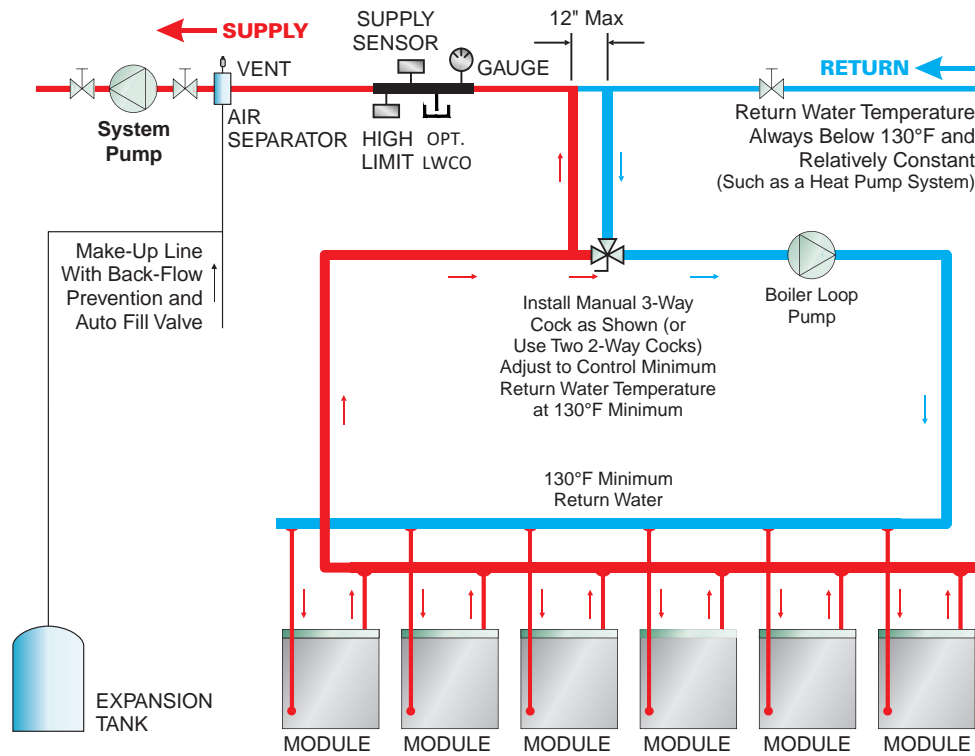

Figure 5.7: Parallel Pumping Fixed Bypass
- a) On systems with a constant or nearly constant operating temperature (such as heat pump systems), the return water temperature to the boiler can be controlled by piping with a fixed-flow bypass loop. Set the balancing valves such that the return water to the boiler is at least 130° F (Figures 5.7 and 5.8).